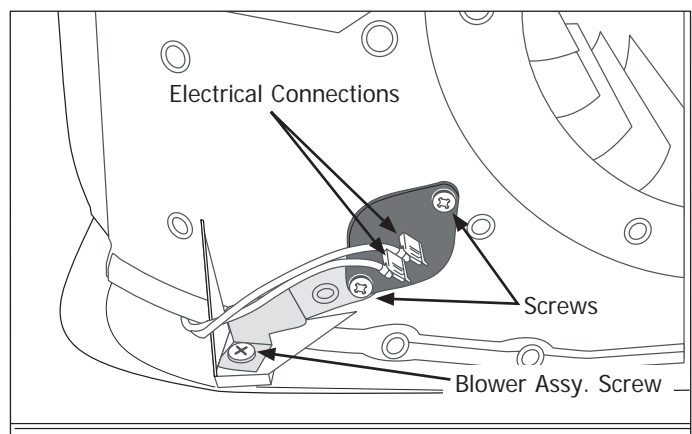

Figure 4-22.
3. Using a #2 square bit screwdriver, extract the two screws securing the outlet thermistor to the blower outlet duct. (See Figure 4-22) To remove the grounding clip, extract the screw securing the blower assembly to the unit base.